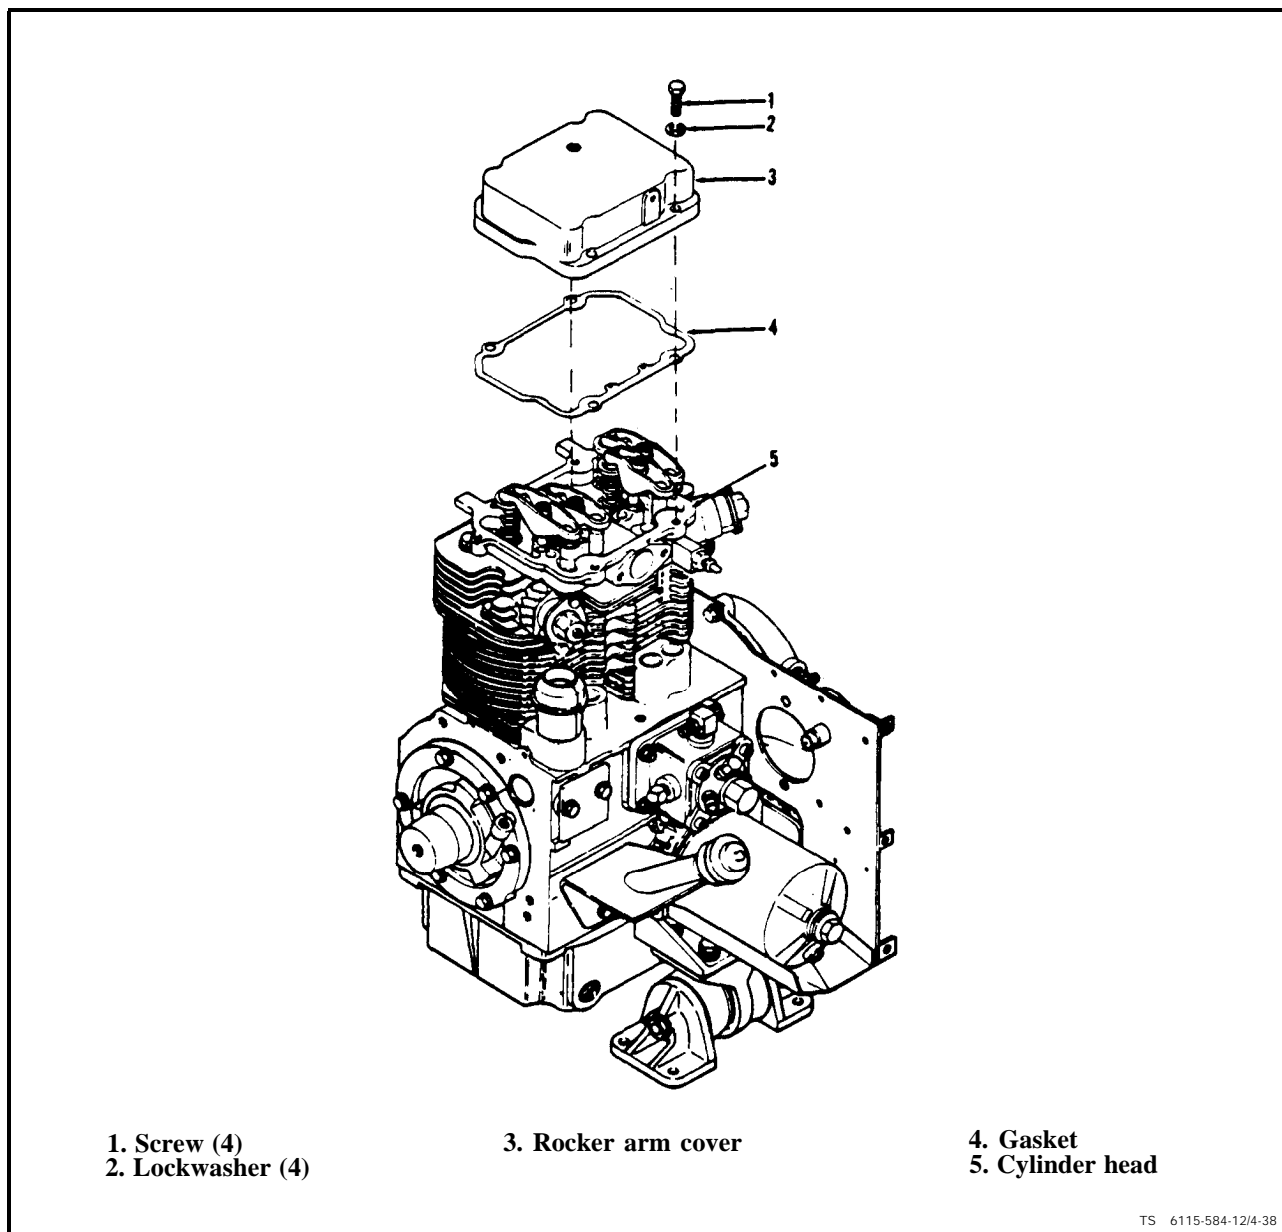

Figure 4-38. Rocker Arm Covers
a. Inspect (see figure 4-38). Inspect rocker arm cover (3) for dents or other physical damage. Check for leaks especially at the gasket (4) between cover and cylinder head (5). Check that cover (3) is securely attached to cylinder head with screws (1), and lockwashers (2).
b. Remove. Remove shroud (13, figure 3-9) per paragraph 4-17b. Remove four screws (1, figure 4-38) and lockwashers (2) attaching each rocker arm cover (3) to cylinder head (5) and remove cover carefully. Clean gasket (4) from both cover and cylinder head.
d. Replace. Place gasket (4, figure 4-38) in position on each cylinder head. Install each rocker arm cover (3) to cylinder head and secure with four screws (1) and lockwashers (2). Tighten screws 7 to 8 ft-lb.